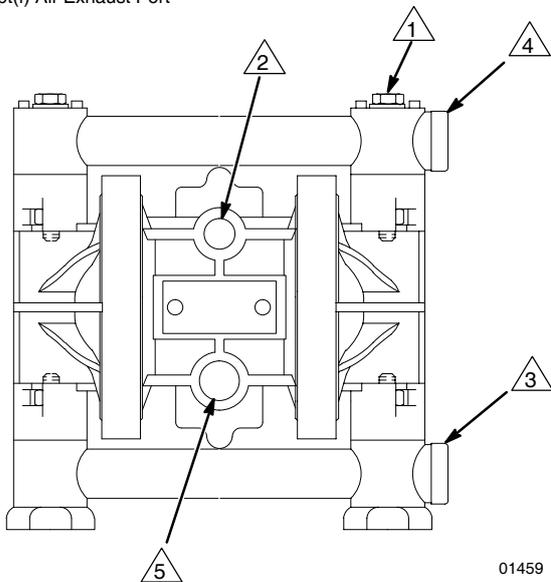

Fig. 4
2. The VERDERAIR VA 10 Pump can be used in a variety of installations, some of which are shown in Figs. 4–3. Kits are available to adapt your pump to your system. Refer to the Product Data Sheets.
- a. The fluid pressure can be controlled. To control it on the air side, install an air regulator (H).
- b. Locate one bleed-type master air valve (B) close to the pump and use it to relieve trapped air. See the **Warning** above. Locate the other master air valve (E) upstream from all air line accessories and use it to isolate them during cleaning and repair.
- c. The air line filter (F) removes harmful dirt and moisture from the compressed air supply.
2. Install an electrically conductive, flexible air hose (C) between the accessories and the 1/4 npt(f) pump air inlet (see Fig. 4). Use a minimum 6.3 mm ID air hose. Screw an air line quick disconnect coupler (D) onto the end of the air hose (C), and screw the mating fitting into the pump air inlet snugly. Do not connect the coupler (D) to the fitting yet.
1. If using a conductive (Acetal) pump, use conductive hoses. If using a non-conductive pump, ground the fluid system. See **Grounding** on page 6. The pump fluid inlet is 3/8 bspt. See Fig. 4. Screw the fluid fitting into the pump inlet snugly.
1. Use electrically conductive fluid hoses (N). Depending on your model, the pump fluid outlet is 3/8 bspt or 3/8 npt(f). See Fig. 4. Screw the fluid fitting into the pump outlet snugly.
2. Install a fluid drain valve (J) near the fluid outlet. See the **Warning** above.
The pump is shipped with the fluid inlet and outlet ports facing the same direction. See Fig. 4. If desired, the direction of one or both ports can be changed. Remove the manifold(s) from the pump as explained in steps 1–2 and 4 on page 18. Reattach with the port facing the desired direction. See **Torque Sequence**, page 27. **Do not over-torque.**